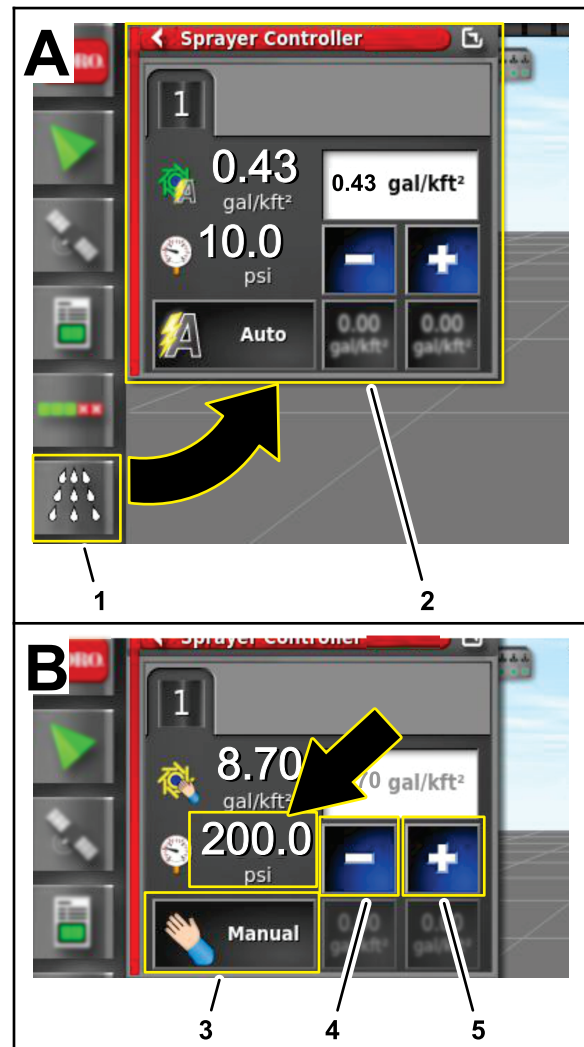

Figure 279
4. On the GeoLink control console, press the SPRAY RATE CONTROLLER icon (Figure 279).
5. In the spray rate controller dialog box, press the RATE CONTROL MODE icon until manual mode displays (Figure 279).
6. Use the decrement icon (-) or increment icon (+) to adjust the spray system pressure (Figure 279) to 13.75 bar (200 psi).